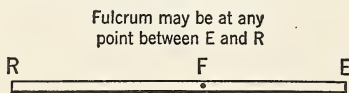
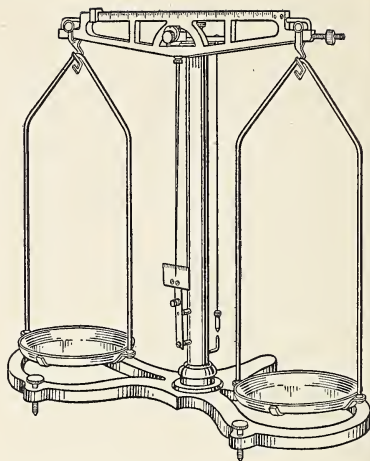
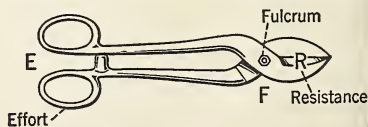

FIG. 238. The first-class lever.
FIG. 239. The beam balance is a first-class lever.
FIG. 240. Tinner's shears have long handles and short blades.
1. With a lever it is possible to have the effort act at or near one end. The resistance is placed at the opposite end of the lever, and the fulcrum is between the two. (See Fig. 238.) Such a lever is known as a *first-class* lever. Such a lever may be used to gain speed, to gain force, or to change direction. The beam balance, Fig. 239, is a common example of a lever of this class. If such a balance is well constructed, the two arms are of equal length and the light, rigid beam rests upon a very hard, knife-edged fulcrum. Accurate weighings can be made with such a balance. If EF exceeds RF in length, we have a *mechanical advantage of force*. The pump handle of Fig. 101 is a common example. The mechanical advantage is more than *one*, because the effort arm exceeds in length the resistance arm. The tinner's shears of Fig. 240 furnish another example. Sometimes a first-class lever is used to gain speed. Then the effort arm is shorter than the resistance arm. The force advantage is a fraction in such cases. Paper shears,